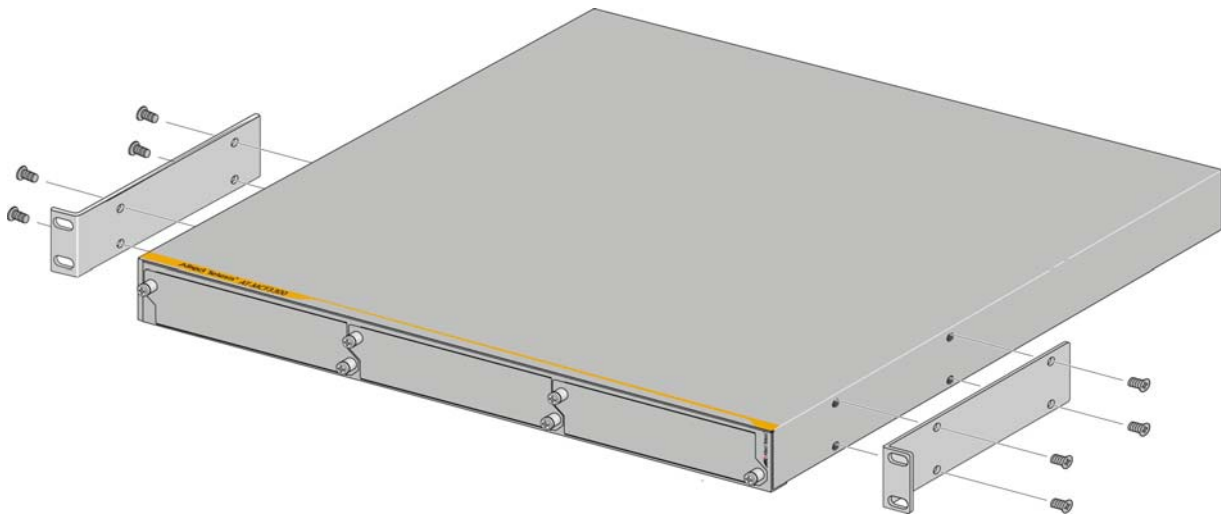

Figure 44. Attaching the Rack-mount Brackets to the MCF3300 Chassis
2. Attach the two rack-mount brackets to the sides of the media converter with the eight M4x6mm screws included with the unit. Refer to Figure 44.